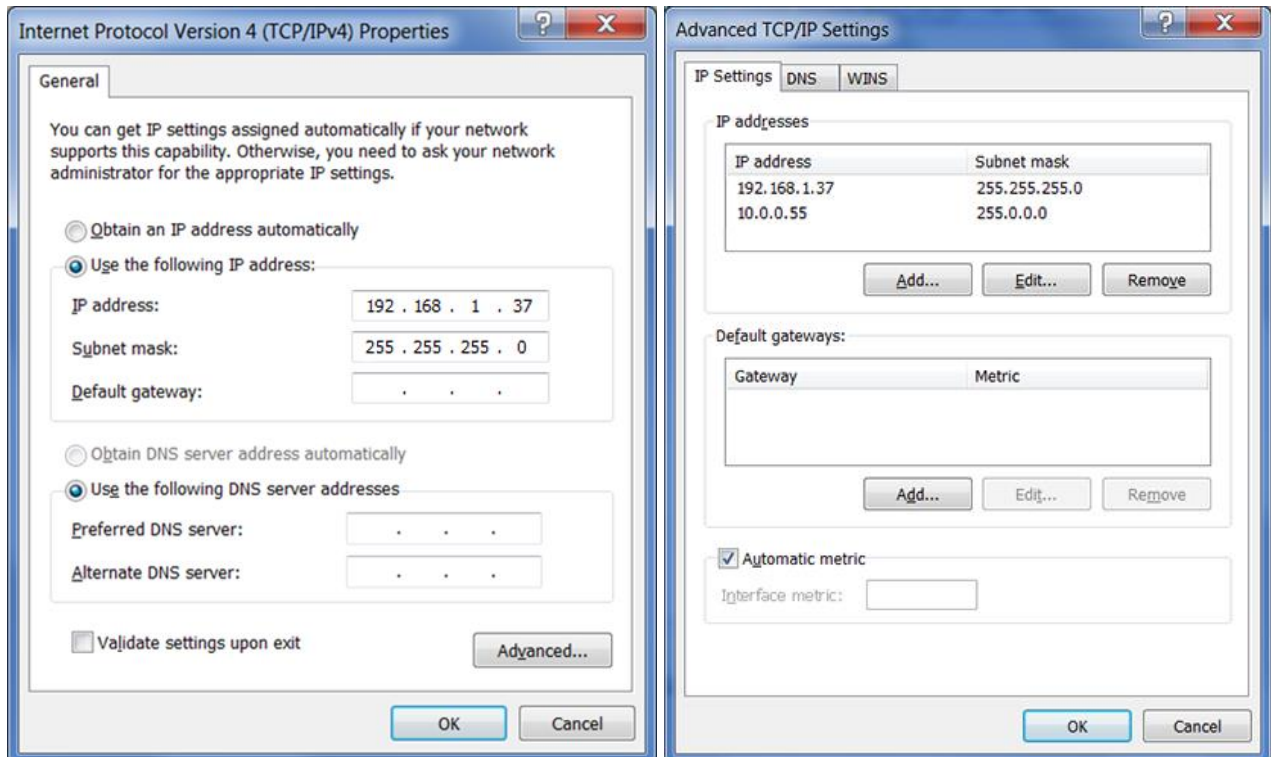

Figure 2: How to enter the extended TCP/IP settings
If the setting "Obtain an IP address automatically" has been activated (see Figure 2 on the right), the IP address for the sensors can also be used as a second IP setting:
- For this purpose press the "Advanced..." button. (see Figure 2 on the left), the "Advanced TCP/IP Settings" button opens (see Figure 2 on the right).
- Conclude the entry of the IP address by clicking "Add", it will appear as the second entry (see Figure 2 on the right).